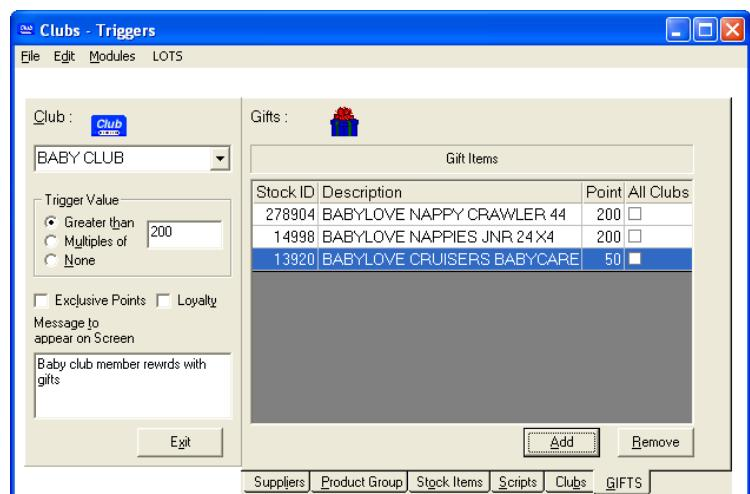

Figure 390
7. If you wish to setup various options for gifts continue to add them to the list of gifts (see Figure 390).